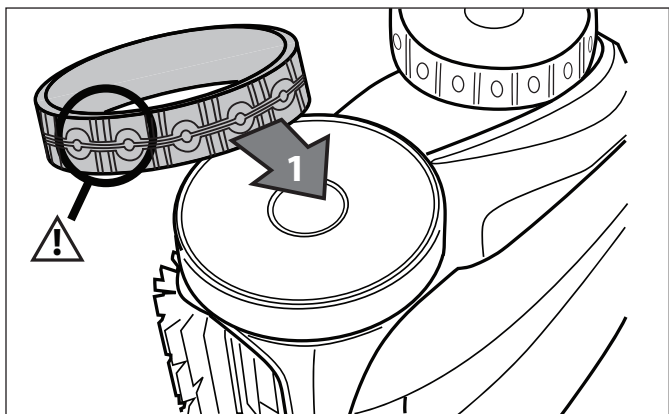

Figure 35. Tire Replacement Orientation
3. To replace the tire, position the tire on the wheel making sure to orient the tire so that the tread is on the outer side of the wheel. See Figure 35.